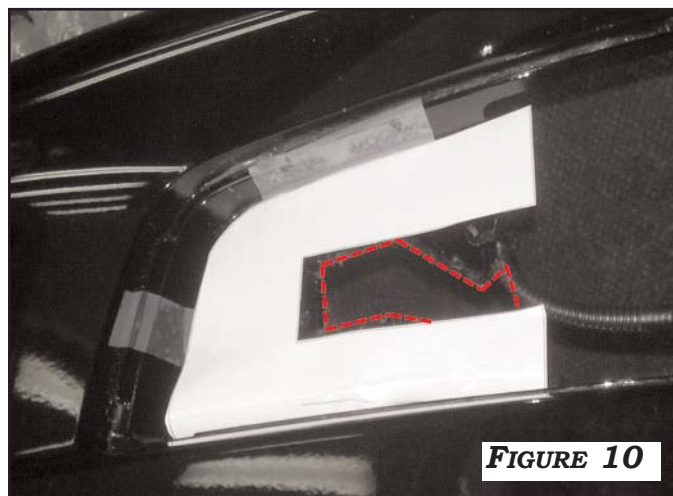

FIGURE 10
5. CUT OUT THE BUMPER CUTTING TEMPLATE FROM THE LAST PAGE OF THIS MANUAL. LINE UP THE TEMPLATE WITH THE TOP EDGE OF THE BEZEL MOLD ON THE BUMPER AND TRACE THE CUTTING AREA WITH A MARKER. **FIGURES 10**